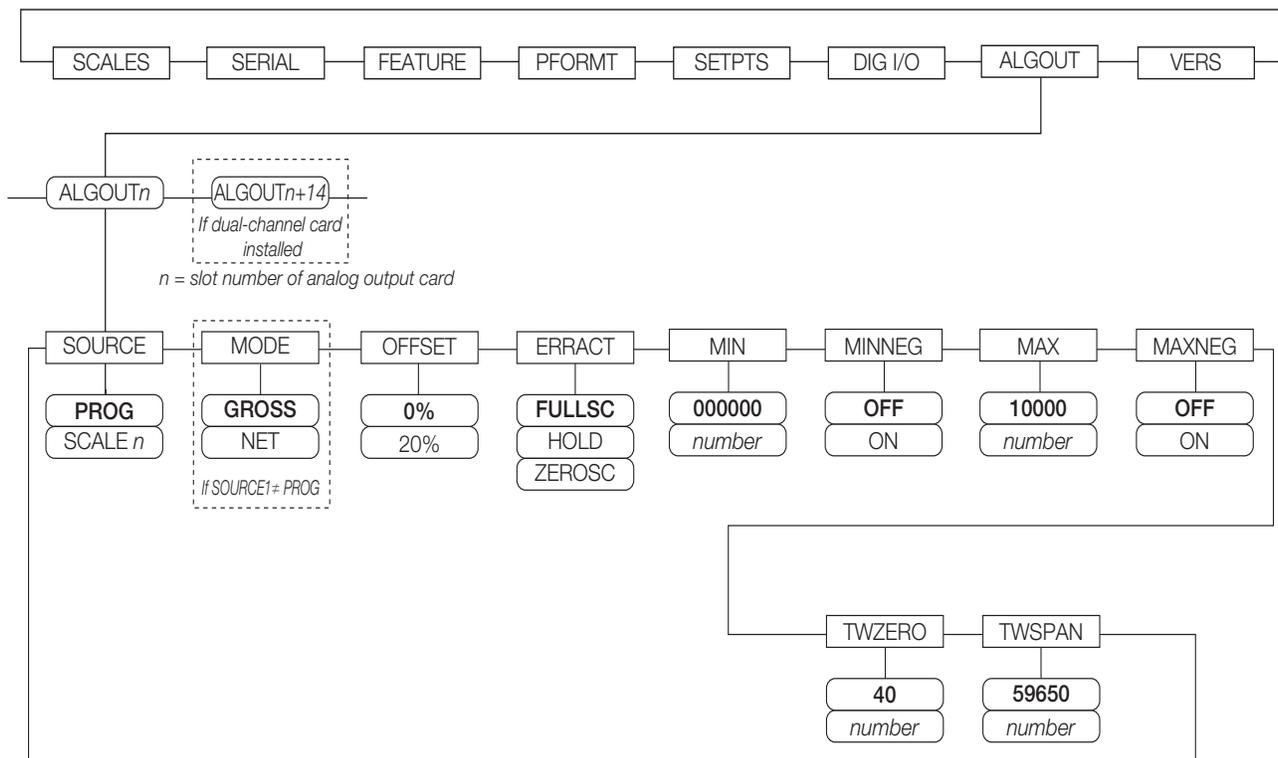

Figure 3. Analog Output Menu
- Enter setup mode and go to the ALGOUT menu (see Figure 3):